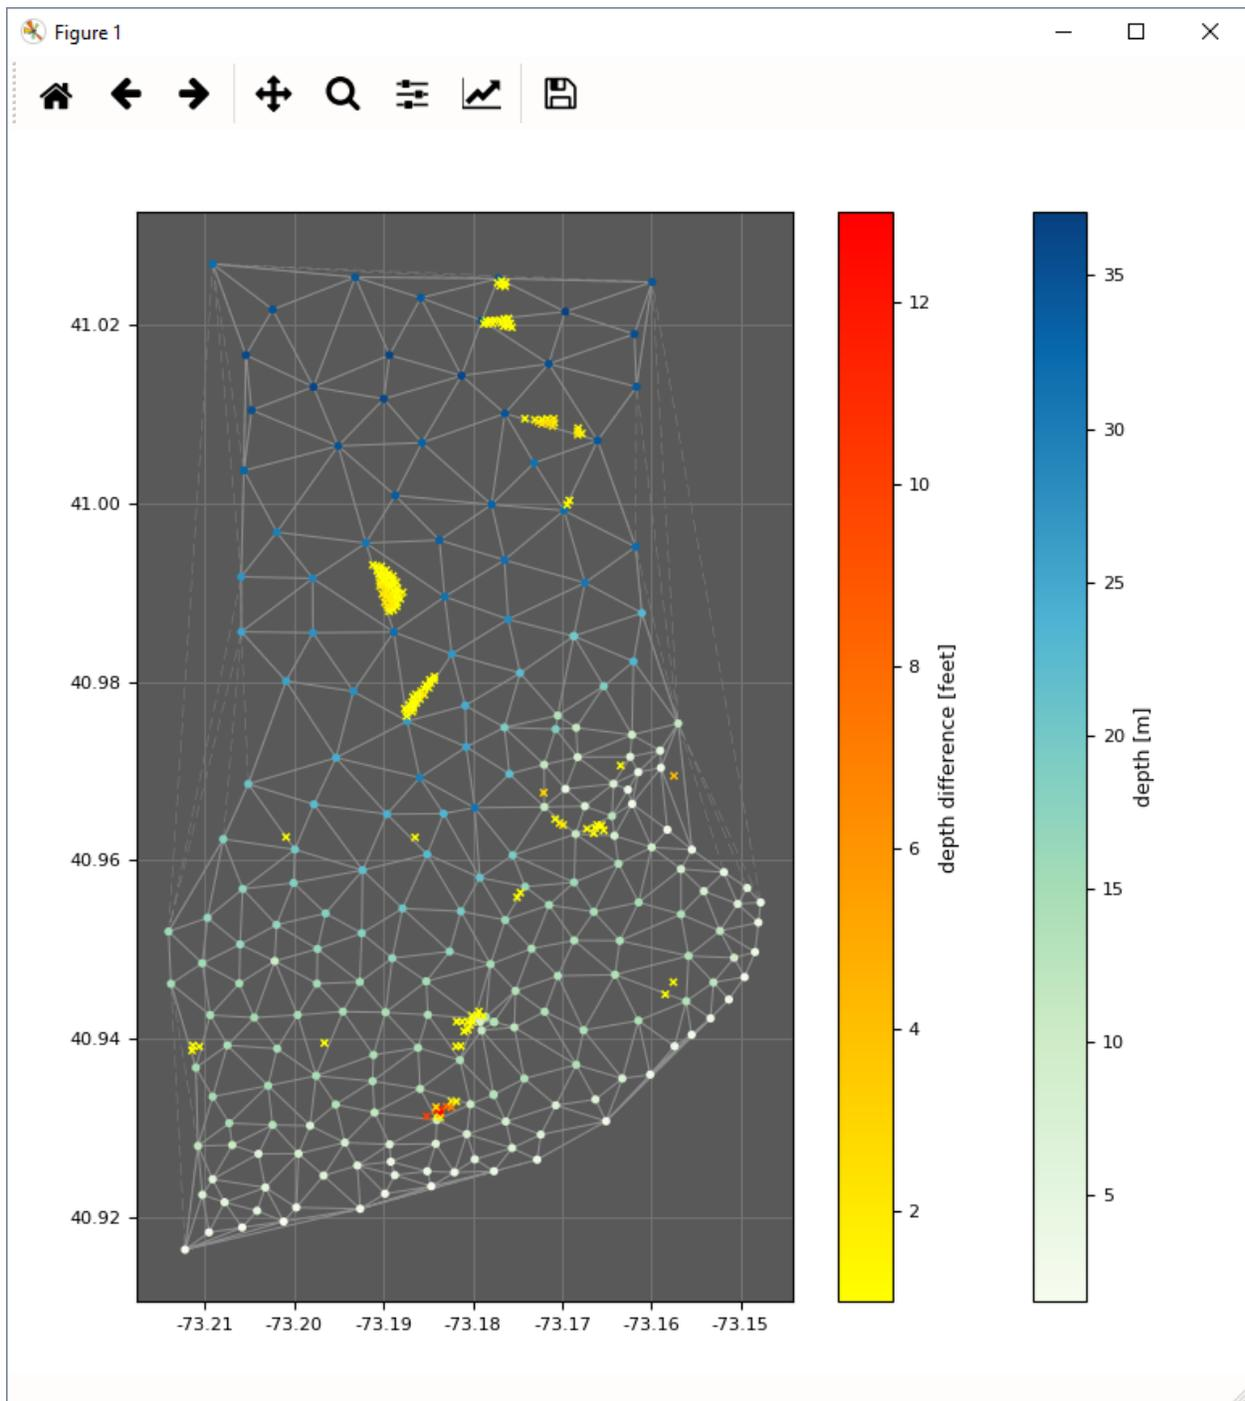

Fig. 2.50: Triangle rule's output display.
- After executing, the results are also shown graphically (Fig. 2.50). Chart-scale soundings are colored by depth, and flagged survey-scale soundings that may not be adequately represented are colored by their discrepancy.